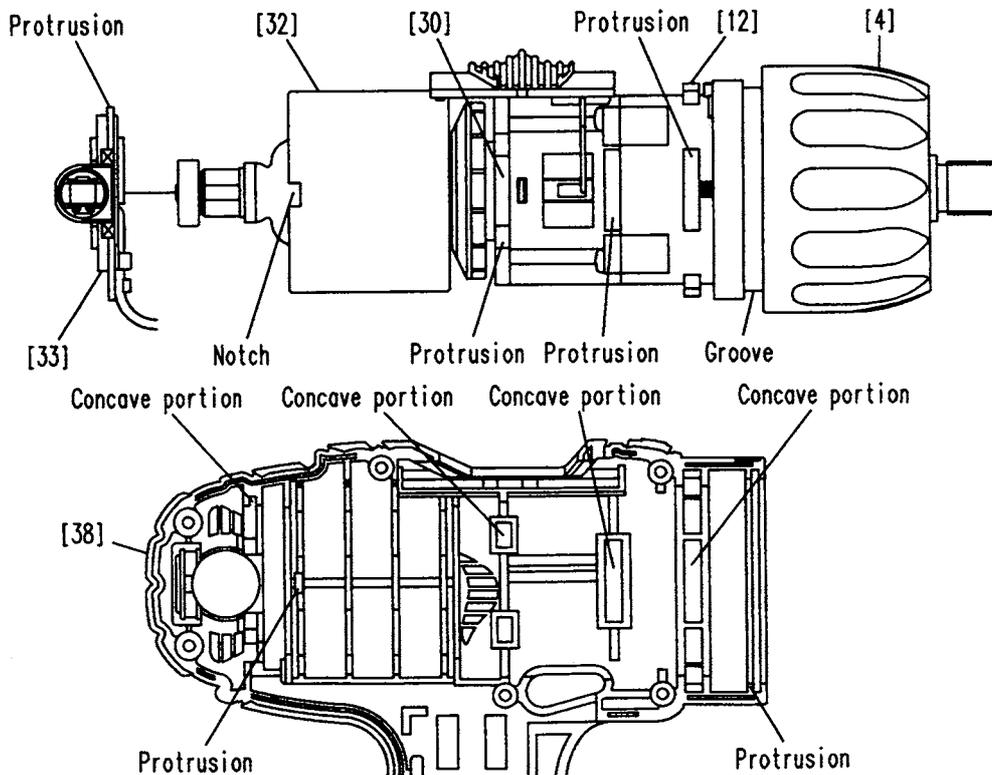

Fig. 17
(6) Reassembly of the main unit
- (a) Mount the power supply unit and the drive unit that were reassembled in the above procedure to Housing (A) [38]. At this time, align the protrusions of the Brush Block [33], Front Case [12] and Motor Spacer [30] with the concave portions of Housing (A) [38], the notch of the Magnet [32] with the protrusion of Housing (A) [38], and the groove of the Front Cap [4] with the protrusion of Housing (A) [38] (see Fig. 17).